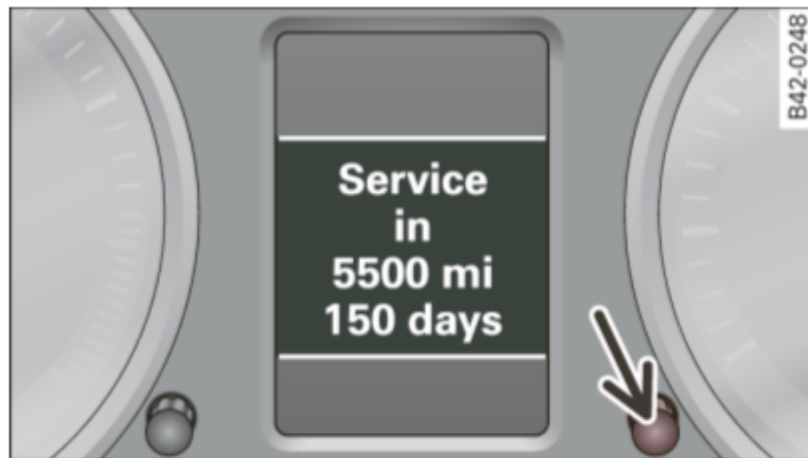

Fig. 8 Section of instrument cluster: Service interval display
- Pull the knob ⇒ fig. 8. The message. **Service due!** appears.